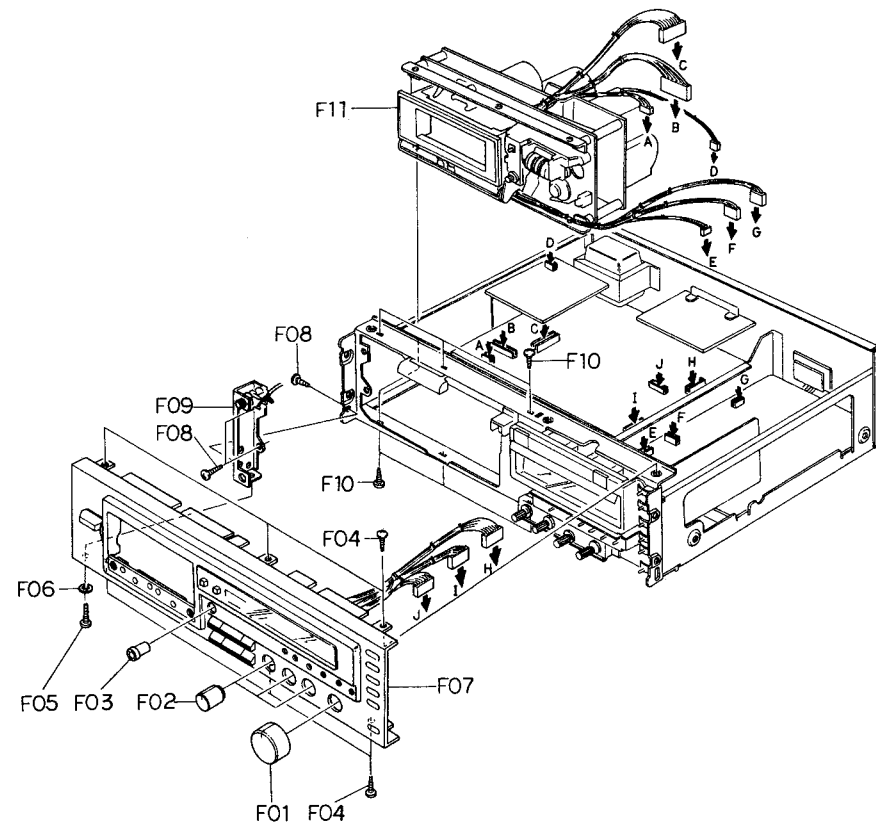

Fig. 2.2
Refer to Fig. 2.2.
- (1) Refer to Fig. 2.2. Remove Front Panel Ass'y referring to item 2.5.
- (2) Remove F01, then disassemble F02 (Level Meter Holder) and F03 (Level Meter).
- (2) Remove one connector and the wires connected by wrapping.
- (3) Remove F04, then disassemble F05 (Auto Azimuth P.C.B. Ass'y).
- (2) Remove 7 connectors and the wires connected by wrapping from F07 (Logic P.C.B. Ass'y).
- (3) Remove F06, then disassemble F07 (Logic P.C.B. Ass'y).
- (2) Pull out F08 (Function Switch Knob Ass'y).
- (3) Remove the Flat Cables, connector and wires connected by wrapping from F11 (Switch P.C.B. Ass'y).
- (4) Remove F09 and F10, then disassemble F11 (Switch P.C.B. Ass'y).
- (2) Remove F16, then disassemble F17 (Calibration Case Ass'y).
- (3) Remove F18, then disassemble F19 (Record Cal. P.C.B. Ass'y).
- (2) Remove F20, then disassemble F21 (Power Switch Knob).
- (3) Remove F22, then disassemble F23 (Power Switch Holder Ass'y).
- (4) Remove F24, then disassemble F25 (Power Switch).
- (2) Remove F26, then disassemble F27 (Insulator) and F28 (Lamp P.C.B. B Ass'y).
- (3) Remove F29 (Lamp P.C.B. C Ass'y) by releasing the self-interlocking pin of the Reflector.
- (2) Remove F01, F02, F03 and F04, then disassemble F05 (Control Button Ass'y).
- (3) Remove F06, then disassemble F07 (Control Switch P.C.B. Ass'y).
- (2) Remove F08, then disassemble F09 (RAMM P.C.B. Ass'y) and F10 (LED Filter).
- (1) Refer to Fig. 2.2. Remove Mechanism Ass'y referring to item 2.7.
- (2) Press the Eject Button to open the Cassette Case Ass'y.
- (3) Remove F01 and F02, then disassemble F03 (Cassette Case Holder L Ass'y) by releasing the self-interlocking pin of the Damper Lock Arm and F04 (Cassette Case Ass'y).
- (4) Remove F05, then disassemble F06 (Cover Plate Ass'y).
- (2) Remove F07, then disassemble F08 (Tape Counter Ass'y).
- (3) Remove F09, then disassemble F10 (Pitch Control Holder Ass'y).
- (4) Remove F11, then disassemble F12 (Memory Switch).
- (5) Remove F13, then disassemble F14 (Pitch Control Volume).
- (2) Remove F01 and F02, then disassemble F03 (Flywheel Holder Ass'y) and F08 (Capstan Belt).
- (3) Remove F04, then disassemble F05 (Capstan Motor Ass'y).